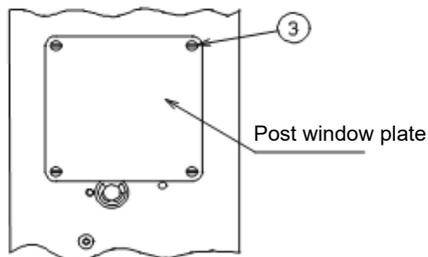

Fig. 3
Loosen the post window plate setscrews ③ (four places) on the counter-operator side of the post and remove the post window plate. (Fig. 3)
Secure the post window plate to the counter-operator side of the post with the setscrews ③ (four places). (Fig. 3)